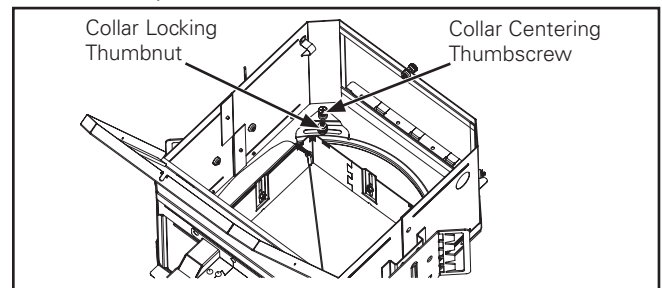
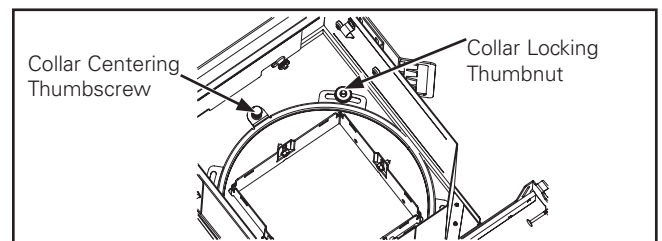

Figure 1.
Figure 2.
1. If adjustment of the rotational alignment of the collar is necessary, loosen the collar centering thumbnut thumbscrew and the collar locking thumbnut (Figure 1.). For use of RA4X4 with P406TAT / P408ICAT housing, the collar centering thumbscrew and collar locking thumbnut have a different location (Figure 2.). Rotate the collar to the desired position and then tighten the collar locking thumbnut. Do not tighten the collar centering thumbnut once the rotation disc has been changed from the factory set position.